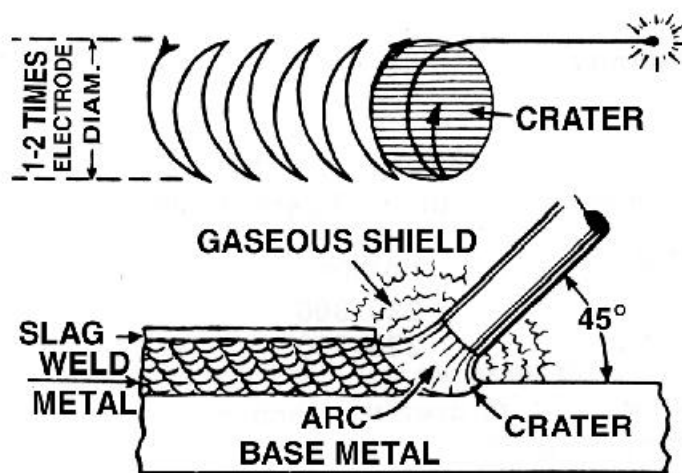

FIGURE 1
- 2) The electrode should be deposited using a narrow weave with electrode held at about a 45° angle in the direction of welding shown in Figure 1. The width of the weave should be one to two times the electrode diameter and the arc length held quite short, with almost a "drag" technique. Welding is stopped by drawing the electrode back into the weld deposit to fill out the crater, and breaking the arc.
- 3) The arc is restruck ahead of the crater and then drawn back to where the crater begins as shown in Figure 1 so that a smooth continuous bead is obtained.